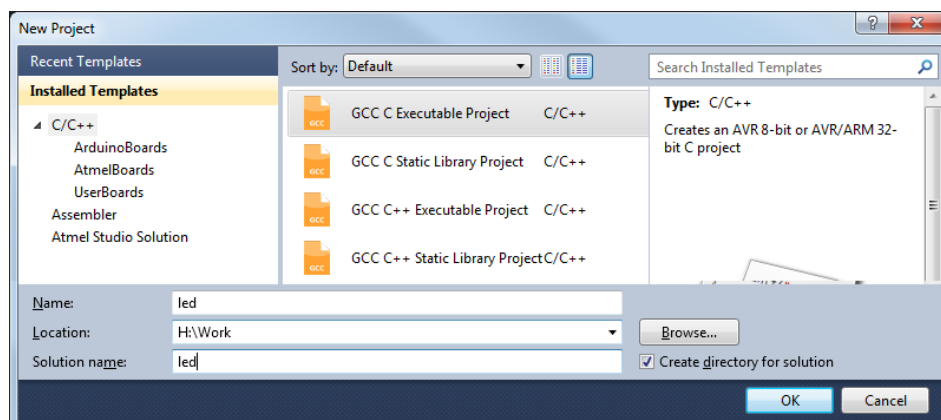

Figure 1: Entering project type, name and location.
- Select menu **File | New Project**. In the dialog box that appears (see Figure 1), select 'GCC C Executable Project', and specify the project name and project location.